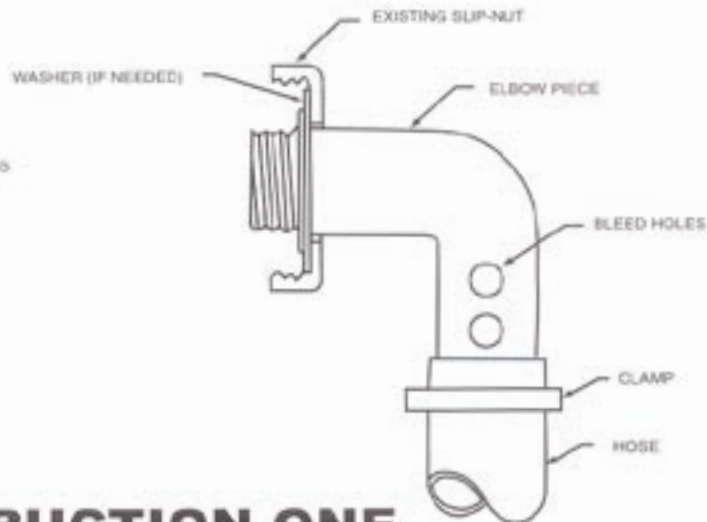

FIGURE 3
3. Refer to Figure 1. Uncoil the hose (3) and remove all twist. Using clamps (15), clamp one end of the hose to the back side of the fountainhead (1), and the other end to the inlet adapter from step 2. Cover one set of bleed holes with the hose (Fig. 3). To tighten clamp, grasp "tabs" between thumb and forefinger and squeeze. Tighten securely with a pair of pliers. To open the clamp, grip one "tab" of the clamp with pliers and twist loose.
4. Using the tie wrap (14), LOOSELY attach the anchor (4) to the hose (3). The anchor (4) should be attached to the hose (3) at a point as deep as the water plus approximately two feet. You will have to estimate what the water depth is where you want the fountain and add two feet. **CAUTION: DO NOT CONSTRICT THE HOSE BY TIGHTENING THE TIE WRAP (14) TOO TIGHT.**
5. Attach the inlet adapter to the pool inlet by screwing the slip-nut back on (Fig. 3).
6. Place the fountain assembly into the pool. Position the fountain in the desired location being careful not to crimp the hose (3).
Height adjustment is achieved by covering more or less of the bleed holes (Fig. 3) on your elbow piece (6) with the hose (3). The more holes covered, the higher the fountain and vice versa.